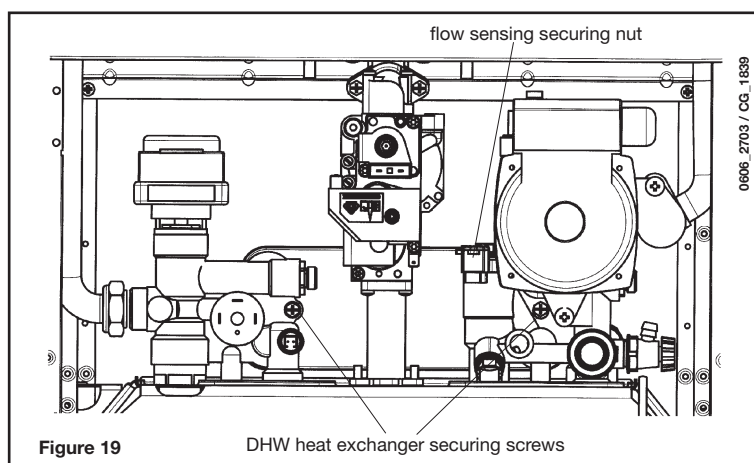

Figure 19
- 2) connect the 3-way valve motor wires (white-red-black) as shown in figure 19;
- remove the two screws (right in front of you) securing the DHW heat exchanger and pull it off its seat (figure 19).
- unscrew the nut on the flow sensing assembly (Figure 19);